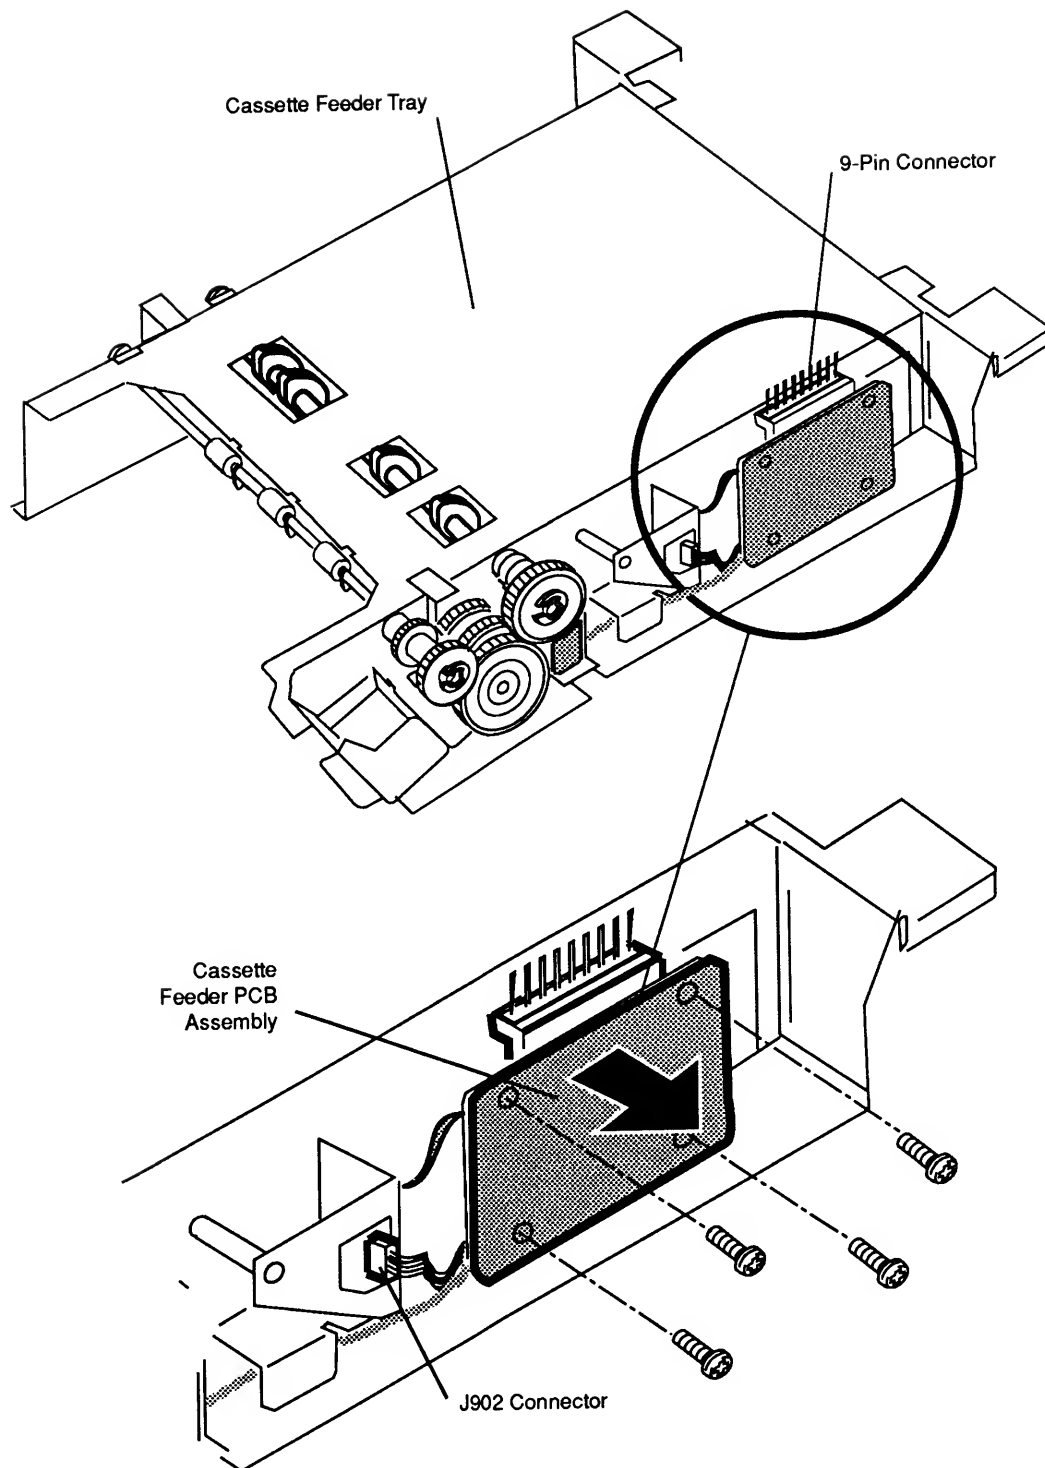

Figure 2-10 Cassette Feeder PCB Assembly
3. Turn the cassette feeder tray so that the 9-pin connector is facing upward (**Figure 2-10**).
4. Remove the four black screws that secure the PCB assembly to the cassette feeder tray (**Figure 2-10**).
5. Disconnect connector J902 and remove the cassette feeder PCB assembly (**Figure 2-10**).
1. Reconnect connector J902 to the cassette feeder PCB assembly (**Figure 2-10**).
2. With the component side of the board facing the cassette feeder tray, place the cassette feeder PCB assembly into position (**Figure 2-10**).
3. Replace the four black screws that secure the PCB assembly to the cassette feeder tray (**Figure 2-10**).